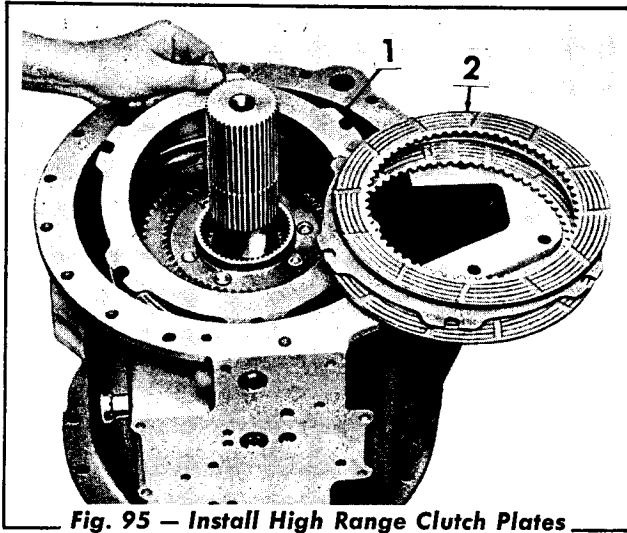

Fig. 95 – Install High Range Clutch Plates
11. Beginning with an external splined plate (Fig. 95), alternately install two external and two internal splined high range clutch plates. Align the splines of the external splined plates.